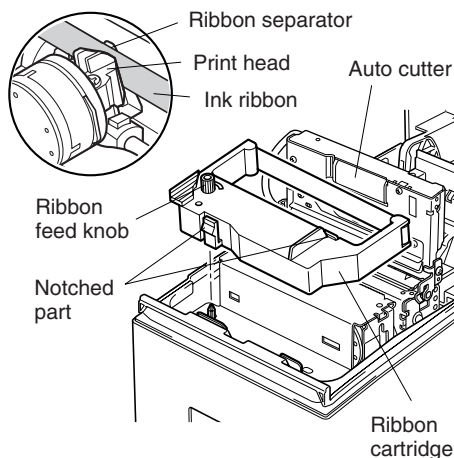

Fig. 5-10 Loading the ribbon cartridge
- ④ Place the ribbon cartridge in the direction shown in Fig. 5-10 and press it down to load it. If loading of the ribbon cartridge is not satisfactory, press down the cartridge while rotating the ribbon feed knob in the direction of the arrow.
- ⑤ Turn the ribbon feed knob of the ribbon cartridge in the direction of the arrow to remove slack in the ribbon.
- ⑥ Close the Auto Cutter.
- ⑦ Close the cover.